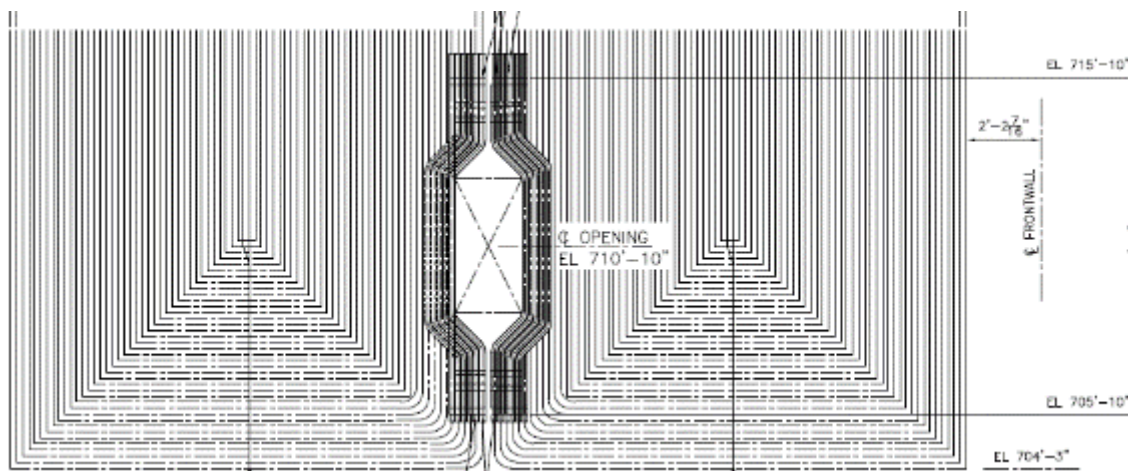

Figure 2. SH Division Panel IK Openings
SH Division Panels showed only slight wear this year as there had been considerable repairs performed in this area in the past. New IKs were installed through the side walls along with WOL SH Division panel openings between the panels (See Figure 2 below). The damage found in 2021 is a result of three (3) mechanisms - mechanical rubbing at flex ties, damaged tube shields and mechanical rubbing at the horizontal spacer tube. Gas temperatures are high in this area, so when installing tube shields they should be short in length, thin gauge, welded to the tubes on one end, and clipped on the other to take advantage of cooling from internal steam flow.